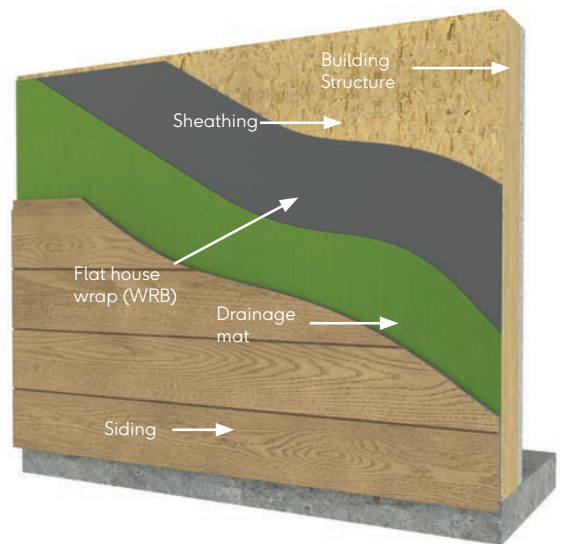

Fig.3 - Typical wall build-up with rainscreen drainage mat
1. Add a rainscreen drainage mat. This usually provides a 1/4" - 3/8" gap behind the boards. (Fig. 3)